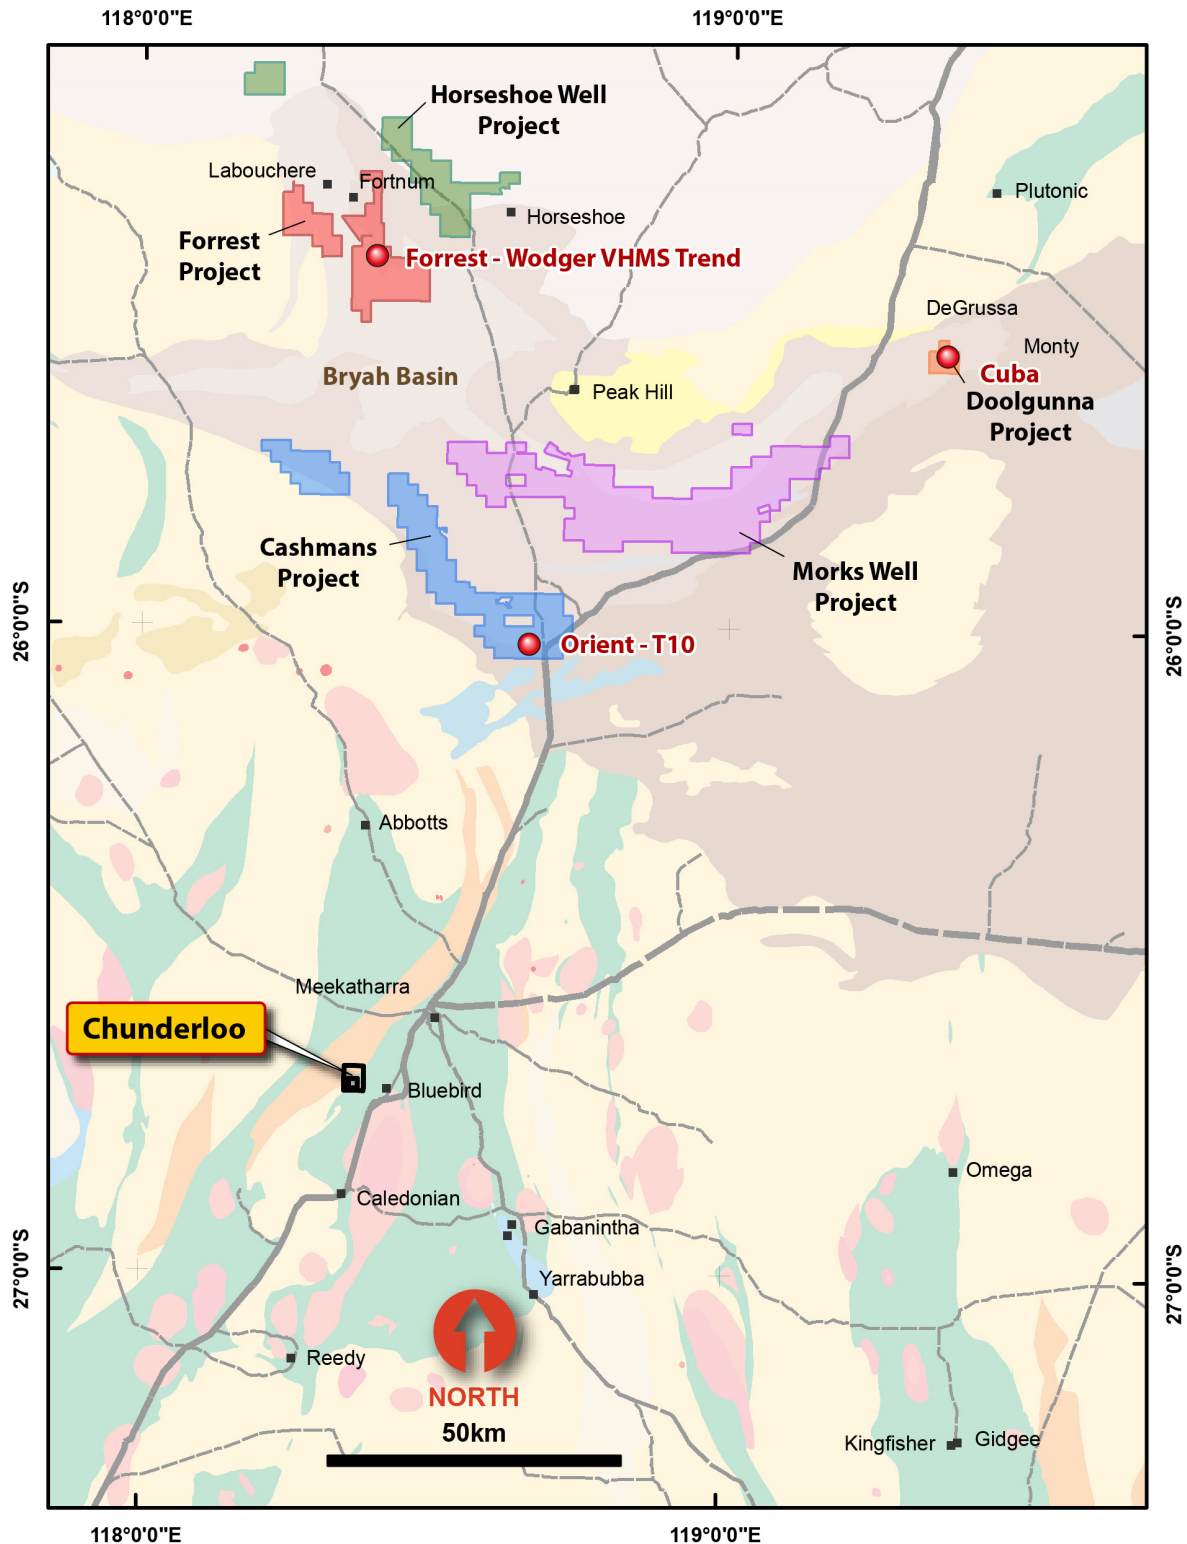

Figure 5: Auris's copper-gold exploration and mining portfolio with highly prospective target locations.
Auris is exploring for high-grade VMS copper-gold discoveries in Western Australia’s highly-prospective Bryah Basin region and recently acquired Chunderloo area (Figure 5).
1. The Forrest Project tenements (Figure 5) have the following outside interests: